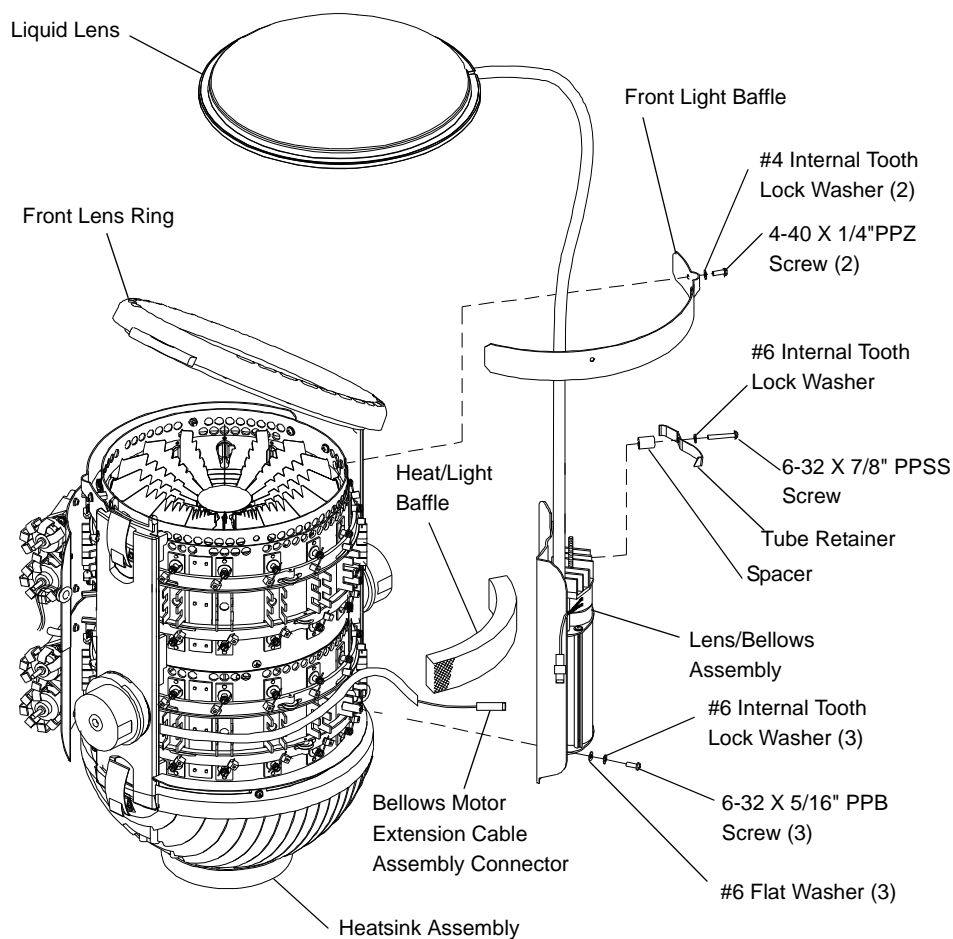

Figure 2-6: VL5Arc Lens and Bellows/Motor Assembly Replacement
Step 2. Unlatch and swing open heatsink assembly and front lens ring. **Figure 2-6.**
- Step 2. Unlatch and swing open heatsink assembly and front lens ring. **Figure 2-6.**